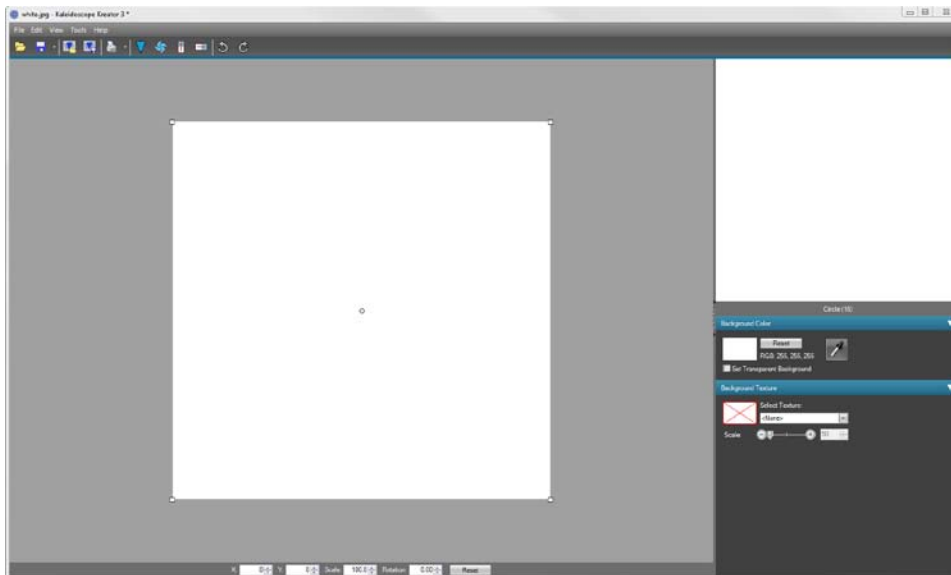
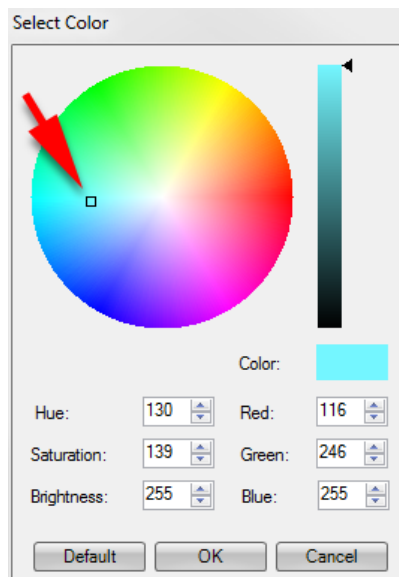
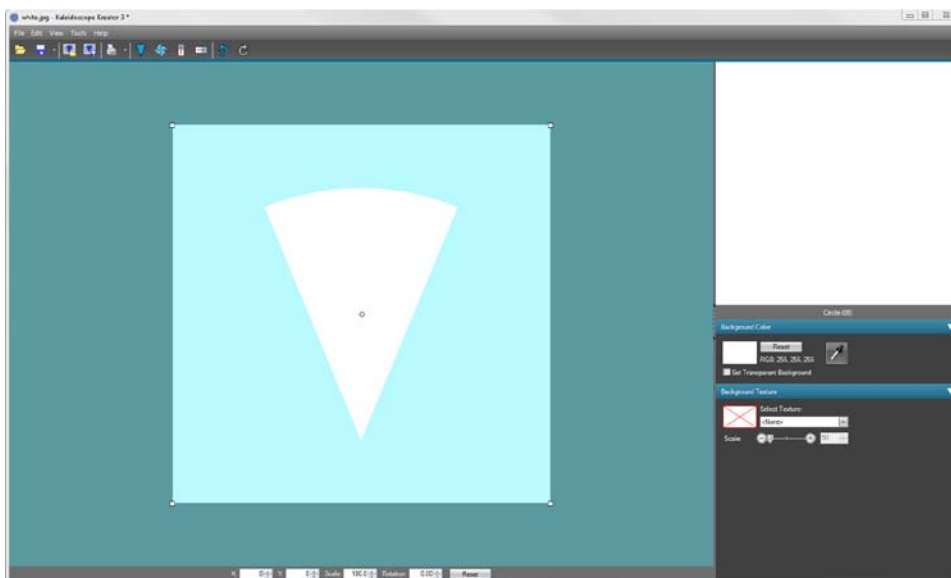

Figure 1
Figure 2
Figure 3
3. You will probably notice that you can't see the template shape over the white image. (Fig. 1) Not to worry! You can change the overlay color by going to **Tools>Options**. Then click on the **Select** button next to the **Template Overlay Color**. Choose any color other than white in the **Select Color** window that pops up (Fig. 2), then click **OK**, and **OK** again. You'll see the overlay color change once you hit the second **OK**. (Fig. 3)